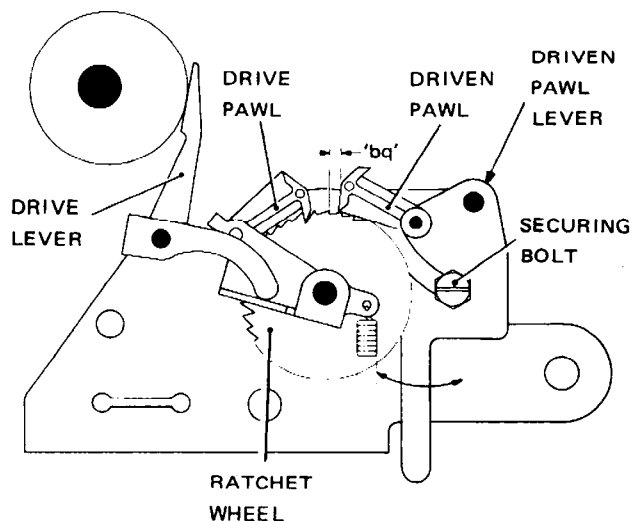

Fig. 4.72 MOTOR CONTROL SWITCH – RETENTION PAWL CLEARANCE
- 81.1 Turn the camshaft by hand until the drive lever, Fig. 4.72, is on the maximum throw of the eccentric cam as shown. Turn the ratchet wheel
- 83.1 With the camshaft in the rest position turn the ratchet wheel, Fig. 4.72, to present a deep notch to the drive pawl, and check that the drive pawl of each ratchet wheel drops freely to the bottom of its notch.